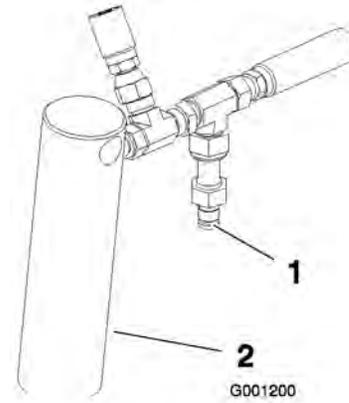

Figure 12
3. Connect a pressure gauge to the test port behind the right lift cylinder (Figure 12).